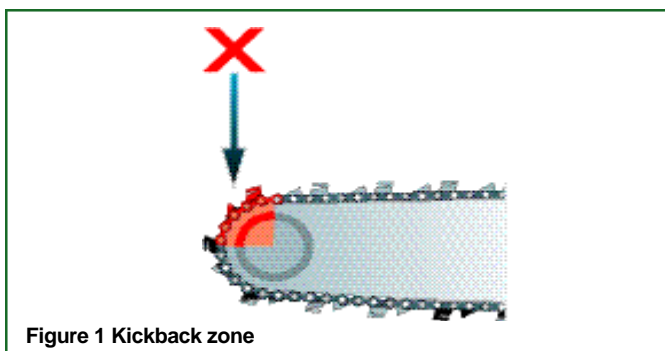

Figure 1 Kickback zone
- it is fitted with a chain type recommended by the manufacturer and is designed to reduce kickback, which is the uncontrolled upward and/or backward motion of the guide bar. It happens when the nose of the guide bar contacts an object such as a log or branch or when the wood pinches the saw chain in the cut (see Figure 1);